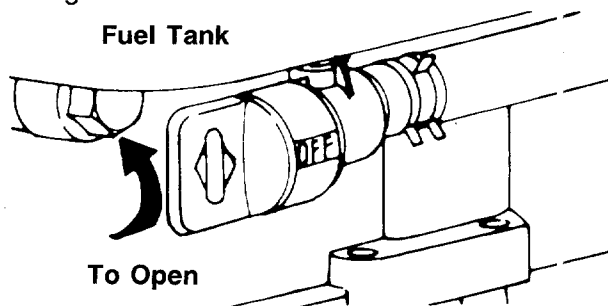
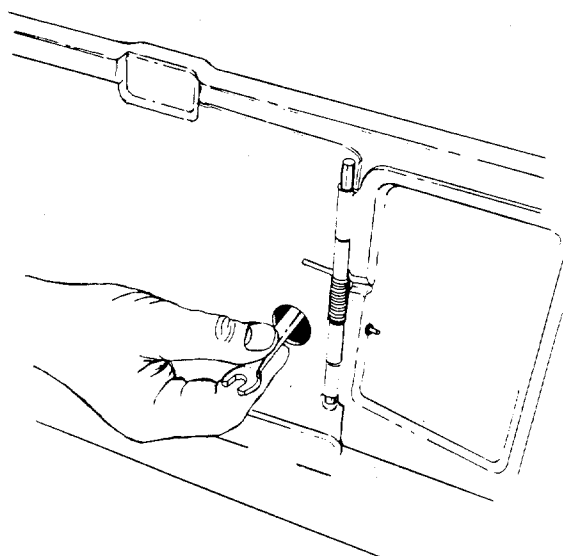

FIGURE 17.
FIGURE 18.—Model 176B
2. The fuel shut-off valve is located beneath the fuel tank. On Model 176B, an access hole is provided in the catcher panel. The fuel shut-off valve should be in the open position. See figure 17. Open fuel shut-off valve using a wrench if it is closed. See figure 18.